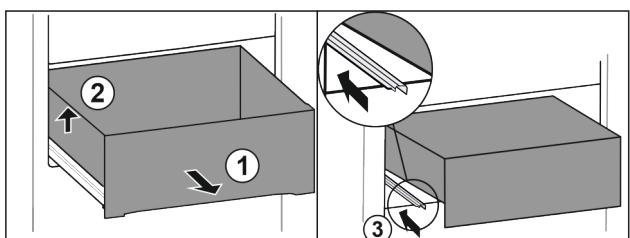

Fig. 88
► Pull out drawer as far as it will go. Fig. 88 (1)
► Lift drawer on the left. Fig. 88 (2)
► Insert left rail. Fig. 88 (3)